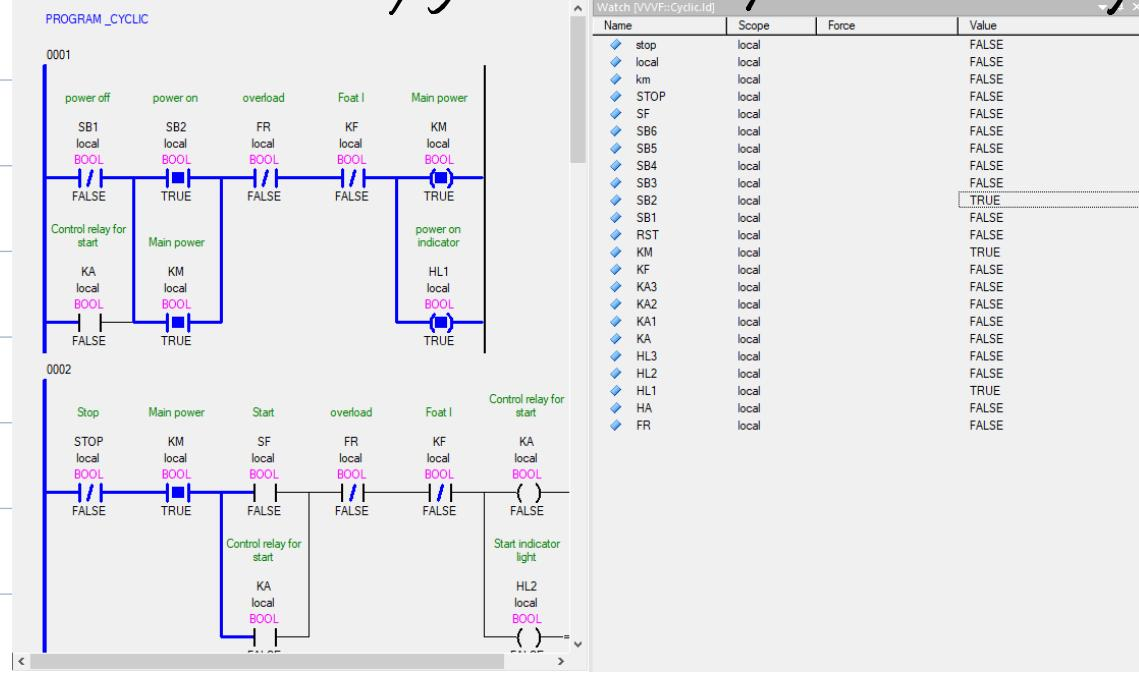

Fig. 2
① To connect the main power supply, set SB_2 (power on switch) as TRUE as shown in figure 2. Main power KM is self-locked.